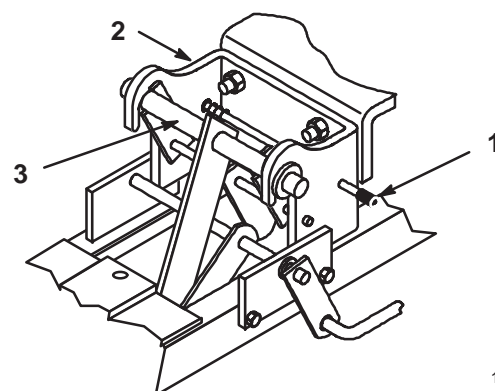

Figure 18
9. Push in on the front hitch release button to open the hitch and remove the blade lift arm (Fig. 18).